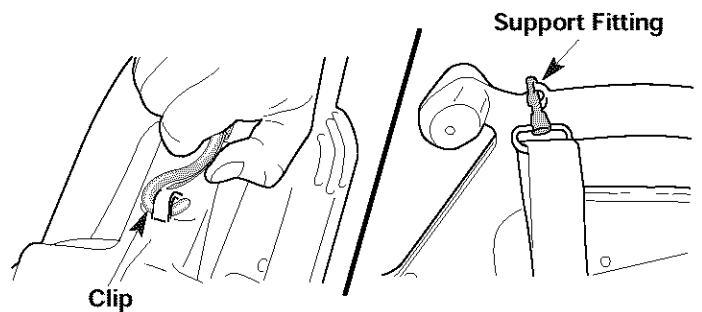

Fig. 7
3. Snap the clip on to the support fitting (Fig. 7).